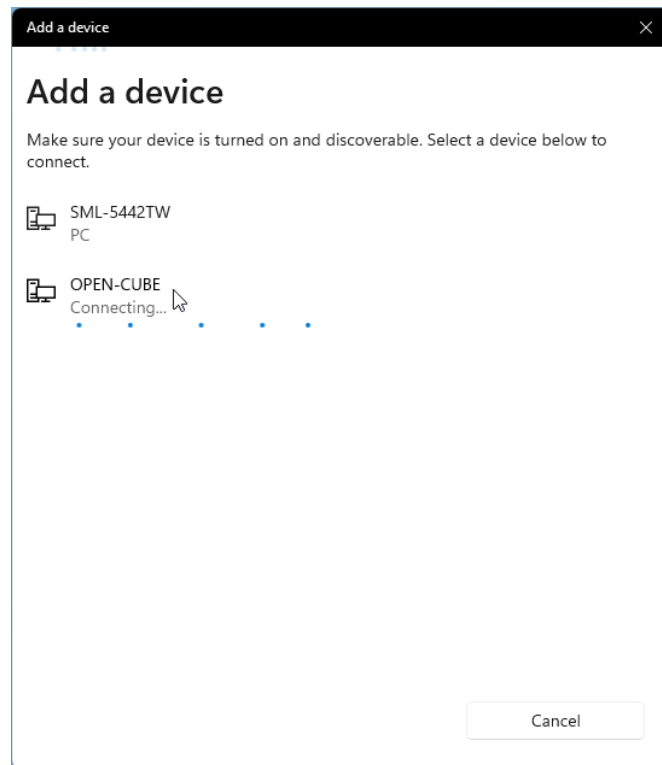

Figure 2: Pairing with cube on Windows.
1. In the Bluetooth settings, select Add new device, then Bluetooth, and pair the computer with the cube. See figure 2.